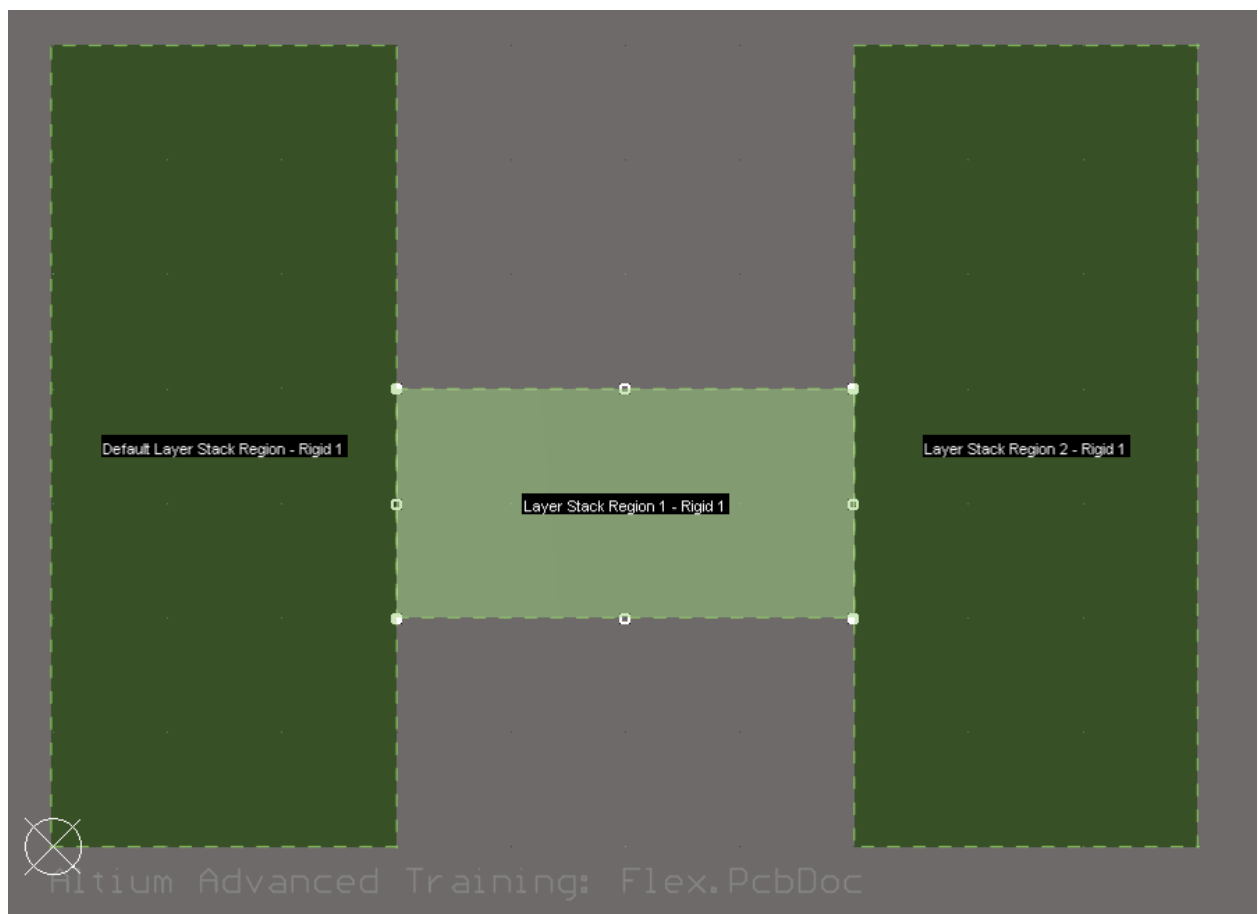

Figure 5. Board with three Board Regions
11. You should now be able to click on the 3 Board Regions. This indicates that the board outline now has 3 sections as shown in Figure 5 below.